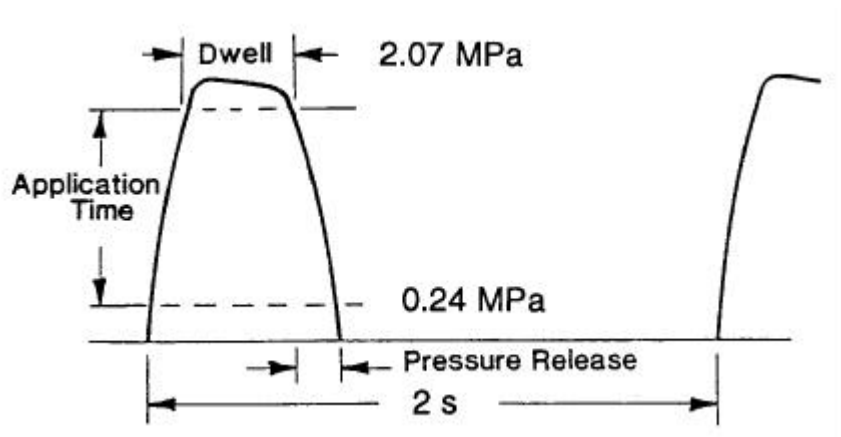

FIGURE 2 - TYPICAL TIME-LOAD CURVE
2. Start the compactor, turn on the recorder and adjust the compactor foot pressure to an indicated 2.41 or 3.45 MPa on the chart. Ensure that the shape of the curve (Figure 2) is free of "chatter" or evidence of impact associated changes in slope and adjust to achieve the following: (Note the chart speed when determining times.)